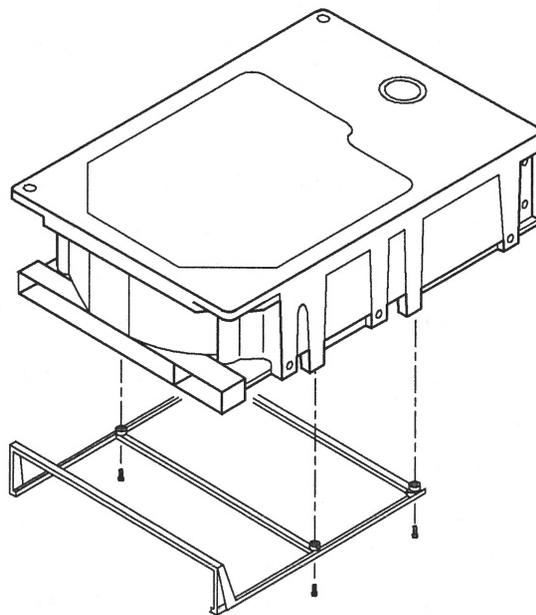

Figure 4-7 Attaching the Bracket to the Drive
- b. Attach the drive bracket to the drive. Refer to Figure 4-7.**